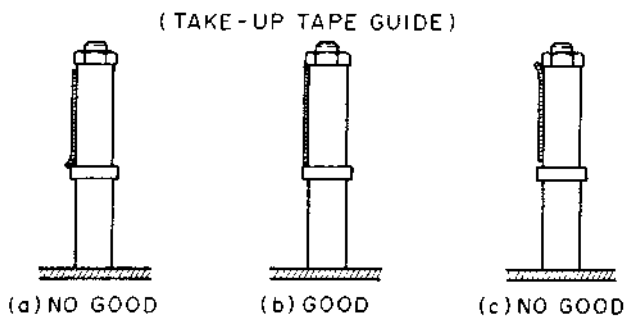

Fig. 5-4
- 4) Slightly turn the screw @ until the tape edge barely touches the lower part of the Take-up Tape Guide without any curl as shown in Fig. 5-4.